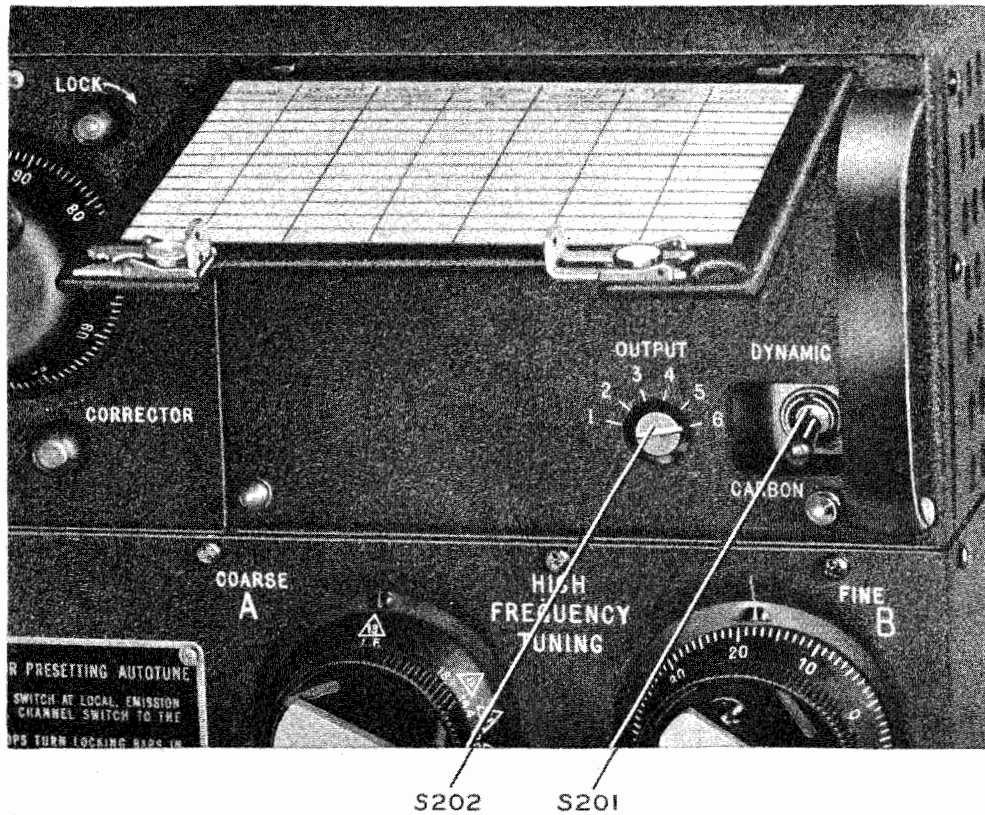

Figure 3-2 Microphone Switch and Sidetone Amp. Gain Control
(4) Set switch F to the position given in the table for the desired frequency.
(5) Turn CALIBRATE-TUNE-OPERATE switch to CALIBRATE.
(6) Loosen dial lock and turn Knob "G" to the dial setting of the nearest crystal check point, shown in heavy type in the group of frequencies containing the desired frequency. Adjust Knob "G" accurately for zero beat in the headphones.
(7) Leave Knob "G" at zero beat and adjust the CORRECTOR which moves the indicating mark until the dial reading at the mark is correct for the check point.
(8) Turn CALIBRATE-TUNE-OPERATE switch to TUNE.
(9) Turn Knob "G" to the dial setting given in the table for the desired frequency. Tighten dial lock.
(10) The BATTERY - PA GRID - PA PLATE switch transfers the right-hand meter to the circuits named. For tuning and normal operation, leave this switch in the PA PLATE position.
(11) The CALIBRATE-TUNE-OPERATE switch turns on the calibrating oscillator and disables the power amplifier in the CALIBRATE position. In TUNE position the equipment is operative at reduced power to prevent damage to the PA tube during preliminary tuning. In OPERATE position the equipment operates at full power. This switch will normally be left in the OPERATE position except during tuning.
(12) The EMISSION switch controls type of emission.
(13) A test key in the upper left-hand corner of the front panel can be used to operate the keying relay for tuning, etc.
(14) The CARBON-DYNAMIC microphone switch and the sidetone output control are located behind the calibration chart, and are accessible by releasing the snap-slides on the chart and swinging it outward and upward. (Refer to Figure 3-2) The sidetone OUTPUT control varies the sidetone output from one-half to 18 volts in 6 steps. Minimum output is at Position 1, and maximum output at Position 6.